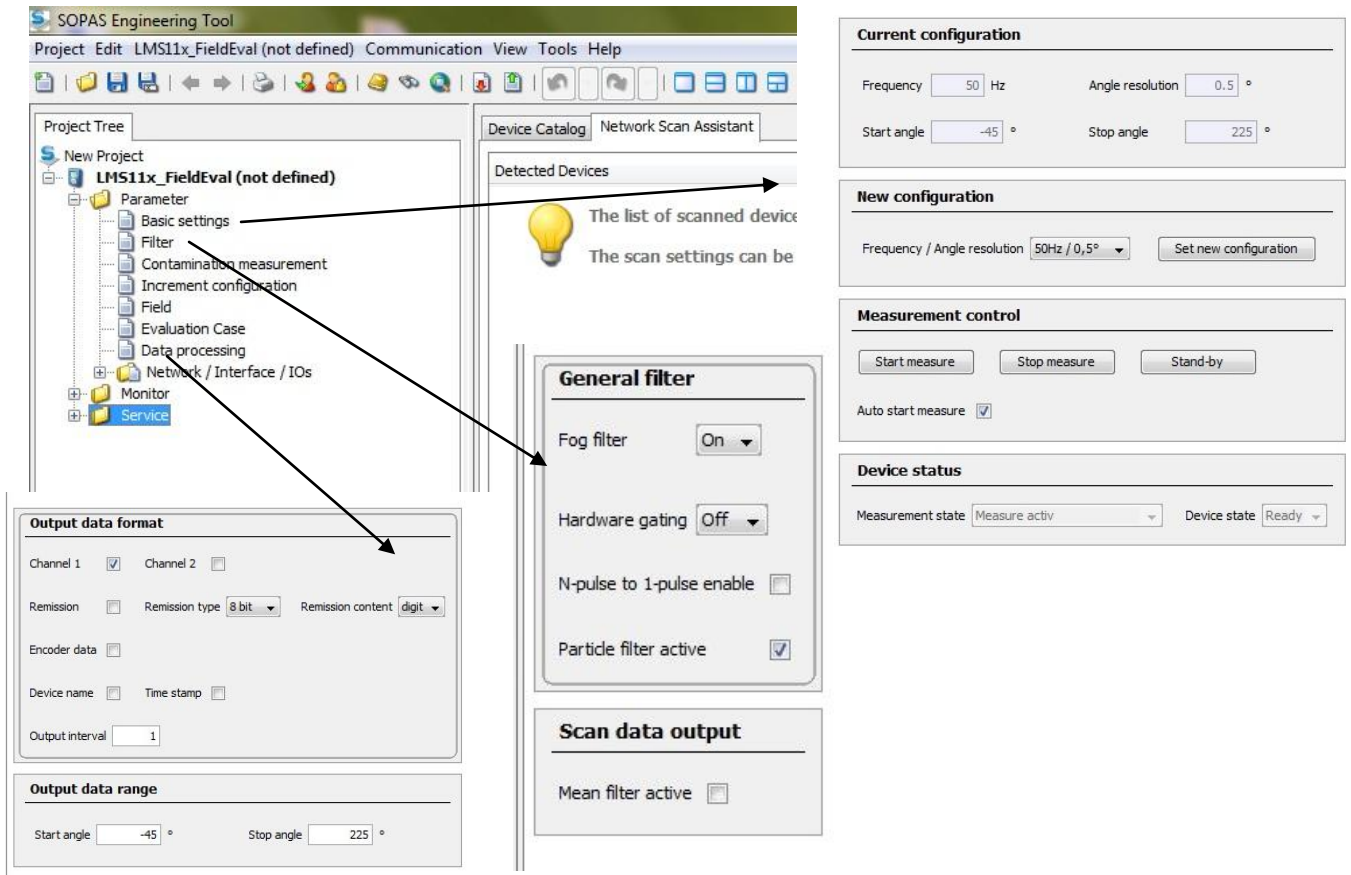

Fig. 8.
**7. Parameters (by default). It has to be taken into account the following files (clicking on them). Fig.8.**